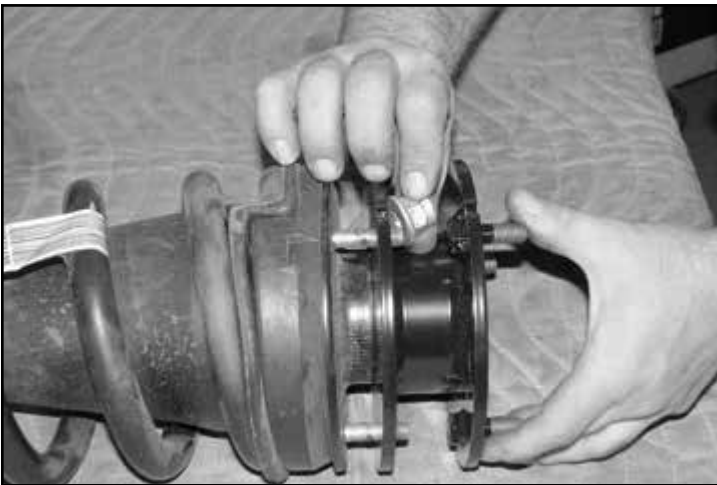

FIGURE 30
30. Install the FT20560BK coil spacer using the factory nuts and torque to 58 ft-lbs. **SEE FIGURE 30**